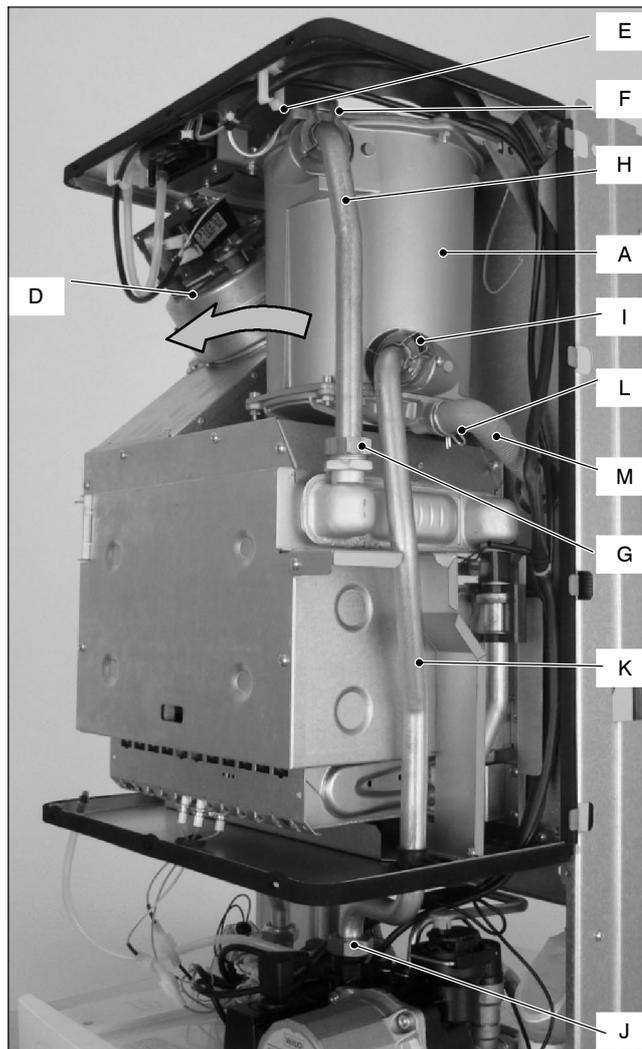

Fig. 2
- 3 Remove the fan *D* in Fig. 2 (see section 14.3).